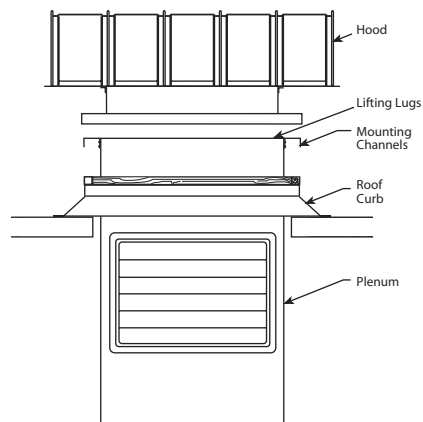

Fig. 1
2. The plenum (factory assembled) is lowered through the curb and roof opening until its mounting channels rest on the roof curb. Lifting lugs are provided. (Fig. 1)
3. The fan hood is lowered onto the curb/plenum assembly. (Fig. 1)